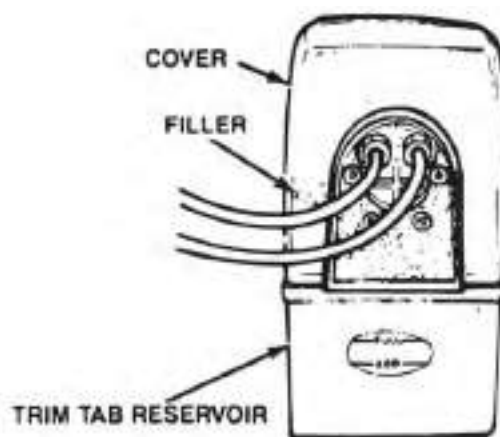

Figure 4-8 –Trim Tab Reservoir
20. Check that oil level in trim tab reservoir is between FULL and ADD marks. (See **Figure 4-8**.) Trim tab reservoir is below the cockpit deck on convertible models or under aft bunk on aft cabin models.